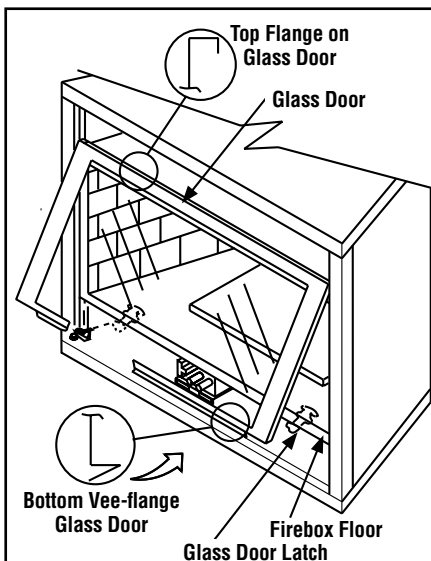

Figure 57 - INSTALLING GLASS DOOR
Removing Glass Enclosure Panels (see Figure 57)
Installing Glass Enclosure Panels (see Figure 57)
2. Position the glass enclosure panel in front of the firebox opening at a 45 degree angle and engage the top flange over the lip at the top of the firebox opening. **See Figure 57.**
3. Allow the burner to operate for at least 15 minutes while observing the flame continuously to ensure that the proper flame appearance has been achieved (see **Figure 57 or 58**). If the following conditions are present, adjust accordingly.